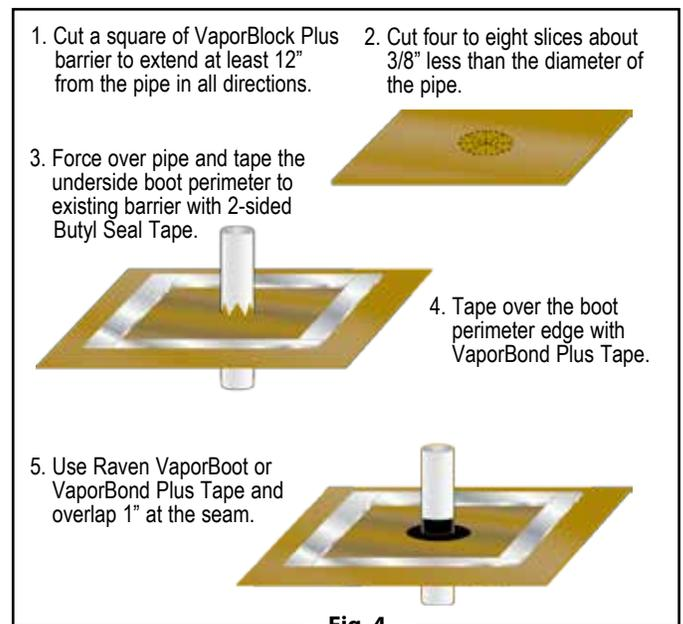

Fig. 4
Pipe boots may also be fabricated from excess VaporBlock® Plus™ membrane (Fig. 4 & 6) and sealed with VaporBoot Tape or VaporBond Plus Tape (sold separately).
To fabricate pipe boots from VaporBlock® Plus™ excess material (see Fig. 4 & 6 for A-F):
- Complete the process by taping over the boot perimeter edge with VaporBond Plus Tape to create a monolithic membrane between the surface of the slab and gas/moisture sources below and at the slab perimeter. (Fig. 4 & 6)